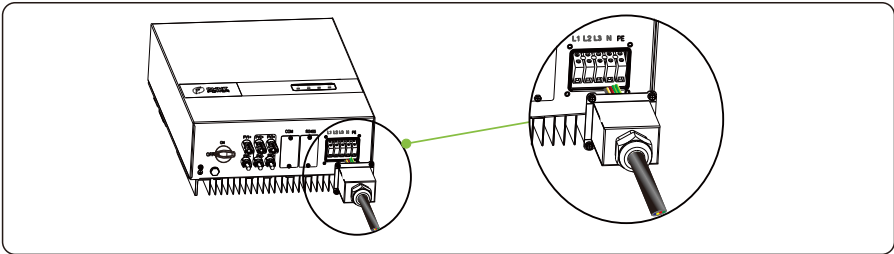

Figure 5.6 Dealing AC output cable
Step 3 Insert AC output wire through waterproof terminal block to AC connector with appreciate wiring length reserved, as shown in Figure 5.6.